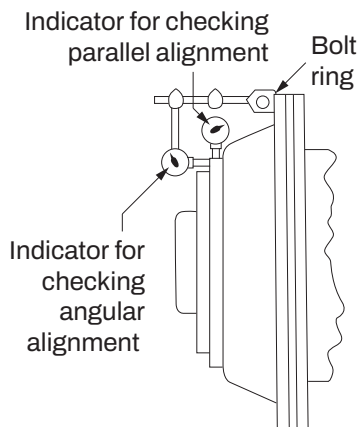

Figure 2
- For longest Flexidyne coupling life, it is always desirable to align coupling as accurately as possible at initial installation. Check both angular and parallel alignments by mounting indicators near the O.D. of the flange, as shown in Figure 2, and rotating the shafts thru 360° . For a good installation neither reading should exceed value "E" given in Table 1. Alignment should be re-checked after any repositioning.
Check both parallel and angular alignments by mounting indicators near the OD of the flange (See Figure 2) and rotating the shafts through 360° . For a good installation neither indicator reading should exceed value "C" in Table 1. Both alignments should be rechecked after any repositioning.